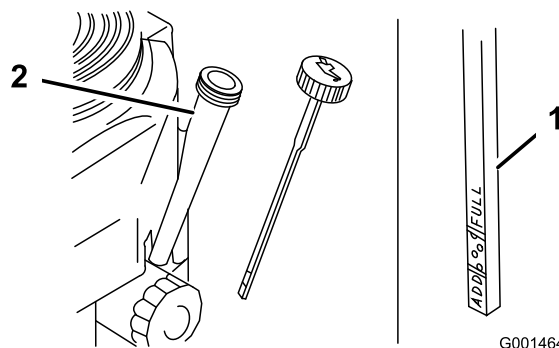

Figure 28
4. Clean around the oil dipstick (Figure 28) so that dirt cannot fall into the filler hole and damage the engine.
5. Unscrew the oil dipstick and wipe the end clean (Figure 28).
6. Slide the oil dipstick fully into the filler tube, but do not thread onto tube (Figure 28).
9. Slowly pour approximately 80% of the specified oil into the filler tube (Figure 28).